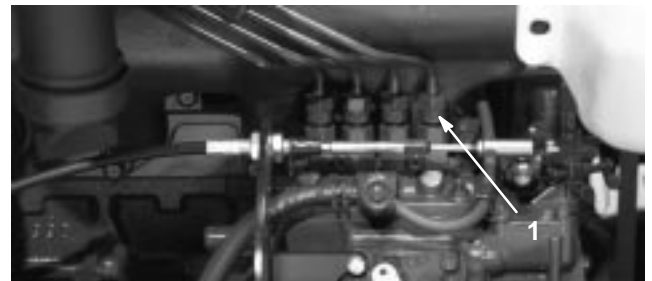

Figure 52
1. Loosen the pipe connection to the No. 1 injector nozzle and holder assembly at the injection pump (Fig. 52).